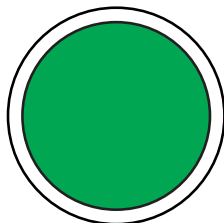

Figure 53. Circuit Breaker ON Button (ON/GREEN)
3. **On the first generator**, press the **Circuit Breaker ON button** (Figure 53).
4. **On the second generator**, press the **Circuit Breaker ON button** (Figure 53). The voltage and frequency will be automatically adjusted. The circuit breaker will turn **ON** automatically when synchronization is complete.